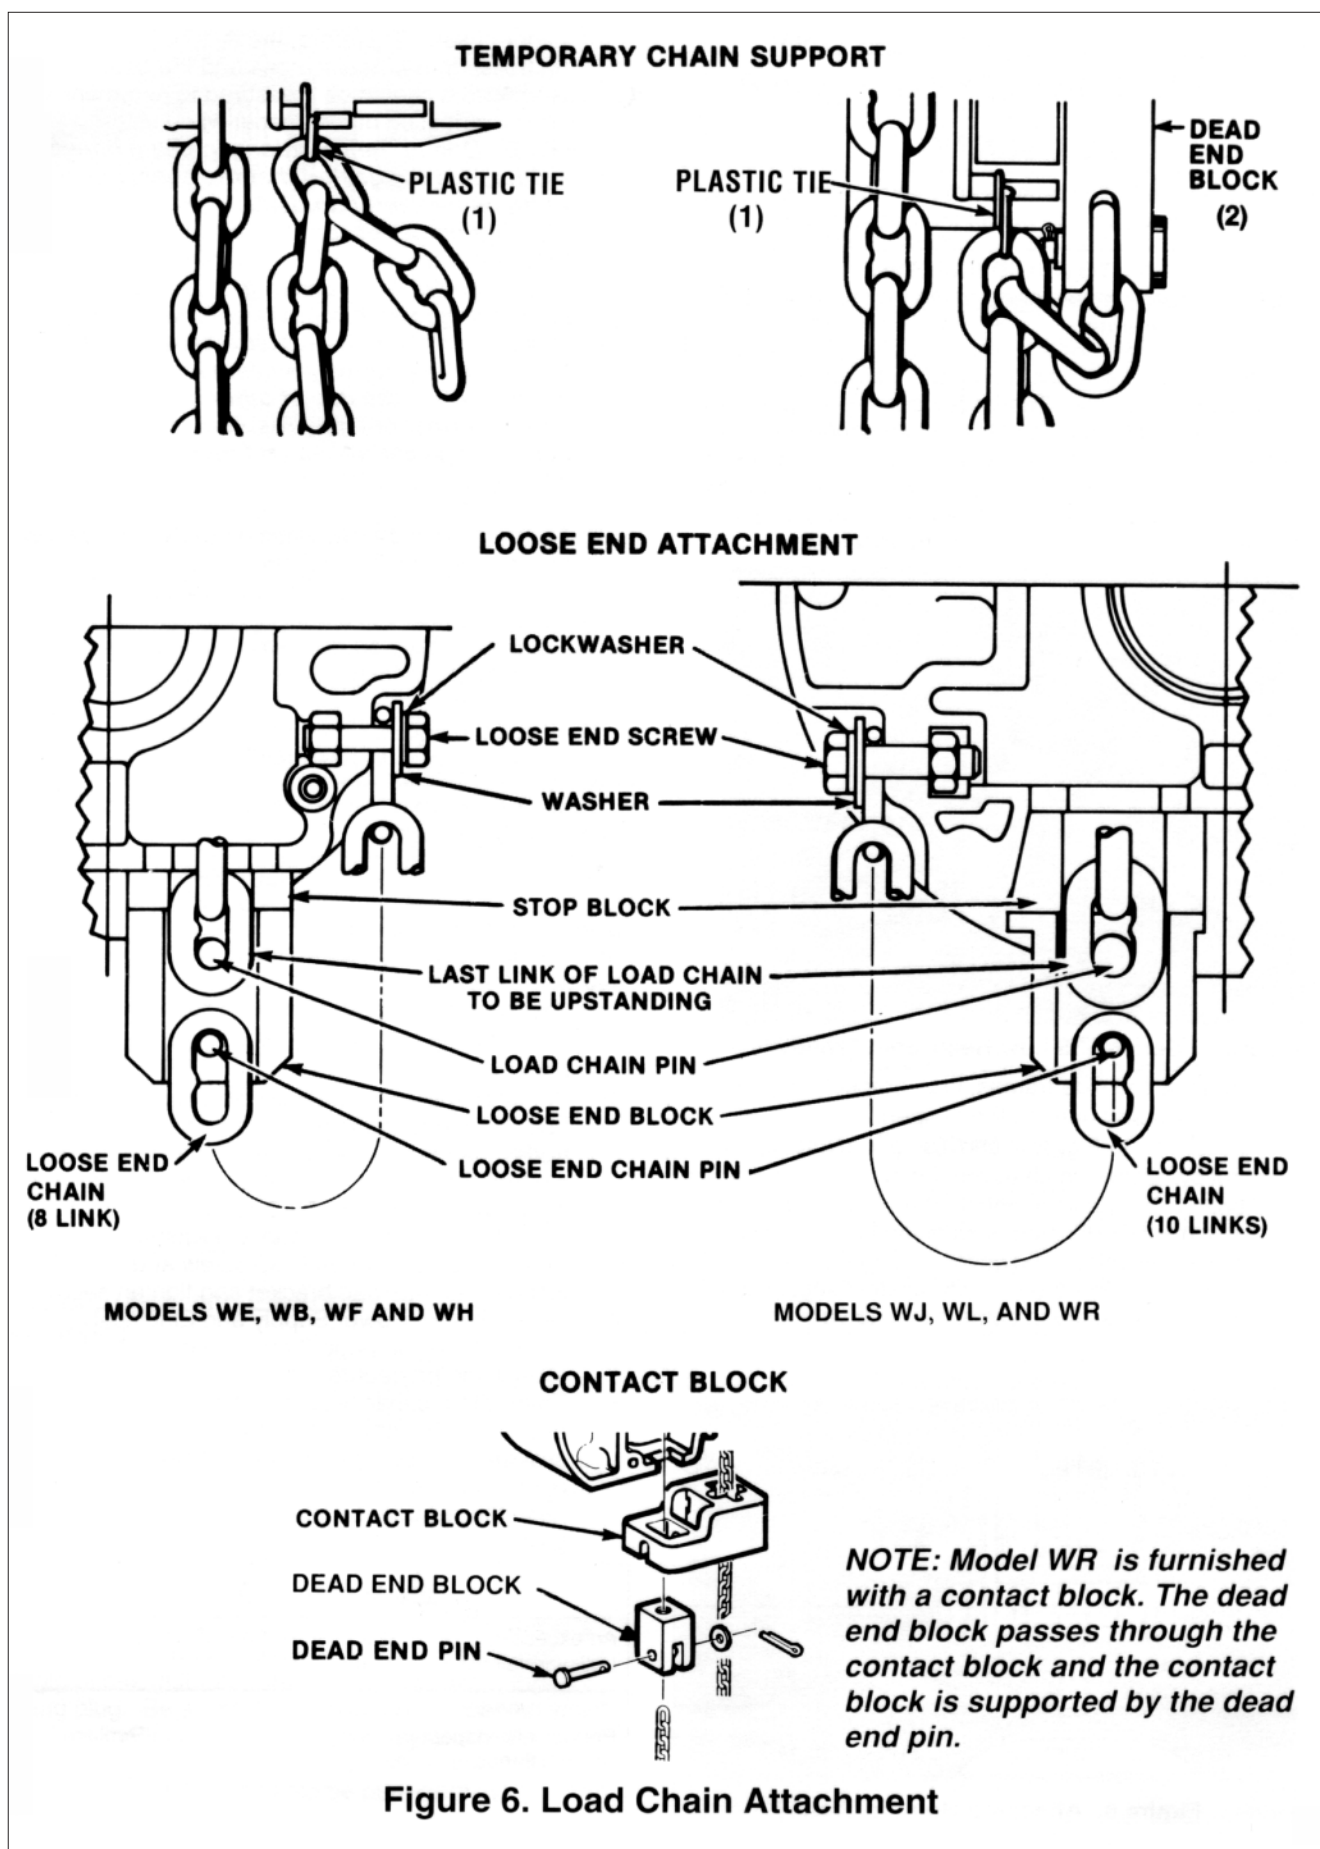

Figure 6. Load Chain Attachment
2. Place the suspension in the recess on top of hoist. On double chain hoist, the dead end block should project through the bottom of hoist with the pin hole and slot aligned to the underside of hoist as shown in Figure 6. It may be necessary to lift the bolt head from the hex recess in the suspension adapter, turn and reseal it, to obtain this alignment. **DO NOT CHANGE THE POSITION OF THE DEAD END BLOCK ON THE BOLT.** The pin hole should clear the hoist frame by not more than 1/4" on Models WE and WH and 7/16" on Model WR.
2. The hoist is shipped with the dead end of the load chain temporarily positioned a few links from the end by a plastic tie (1) as shown in Figure 6. Do not remove this plastic tie until the chain is secured.
3. On Models WE and WH, insert the last link of the load chain into the dead end block (2) and secure it with the dead end pin, washer and cotter pin furnished with the suspension. Remove the plastic tie (1) by cutting with a pair of electrical pliers.